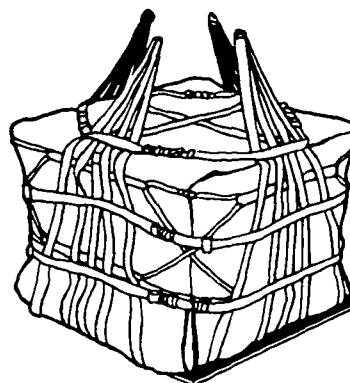

Figure 8-5. Fastening Upper Lateral Straps
Step 8 - Fasten the upper lateral straps in the same manner as in Step 7 (Figure 8-5). If the load is not high enough for the upper lateral straps to go around the side of the load, pull the suspension webs to their full height, and fasten the upper straps diagonally across the top corner of the load. Strap fasteners should be tightened to within four to five inches of the upper lifting legs.